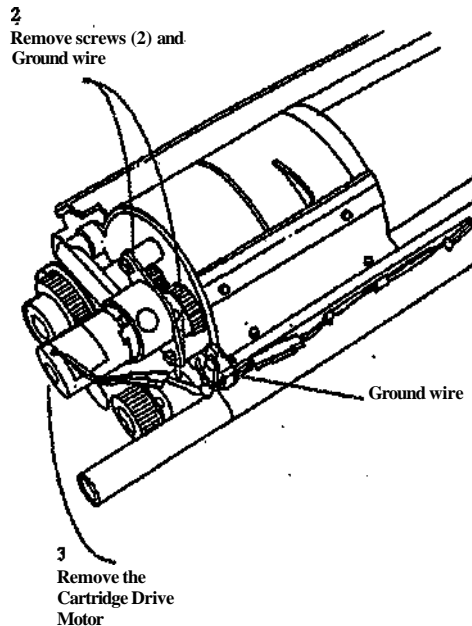

Figure 1. Removing the Cartridge Drive Motor
2. (Figure 1): Remove the Cartridge Drive Motor.